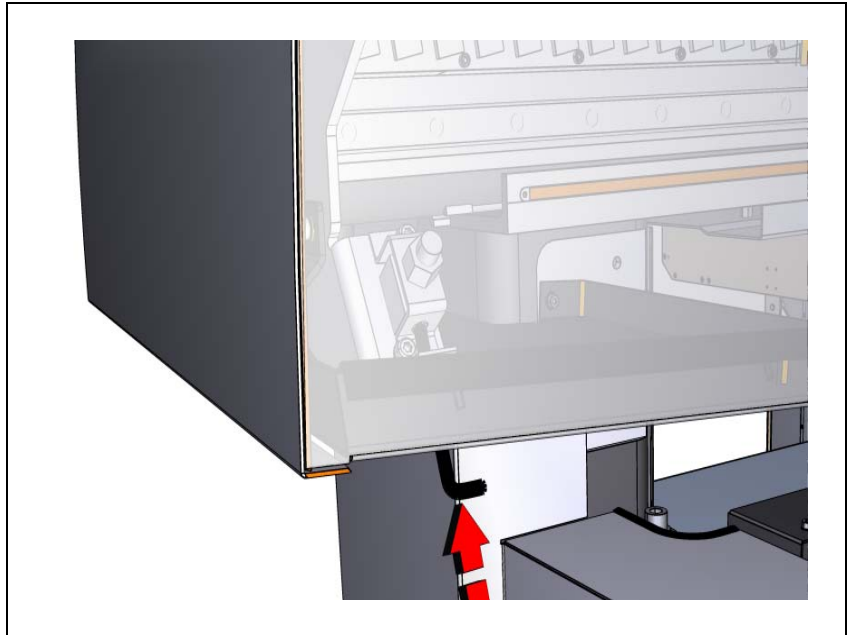

Figure 16-24. Opening the top hood.
1. Open the upper top hood by gently pressing a pointed object, for example an M6 Allen key through the holes and releasing the lock on each side of the upper hood. See Figure 16-24.